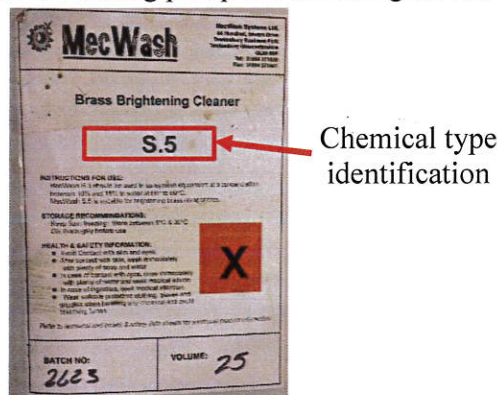

Figure 2: Cleaner chemical identification label.
- 6.1.1.2. **Ensure that S-5 Cleaning Chemical Used.** Ensure that the MecWash Plant is currently using the S-5 cleaning chemical, as shown in Figure 2: